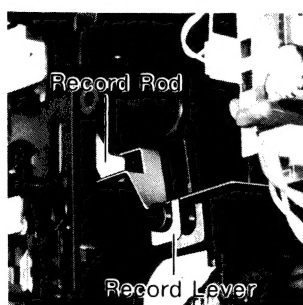

Fig. 5
- *4. Put in the deck, watching the recording rod is set in the recording lever, as shown in Fig. 5.